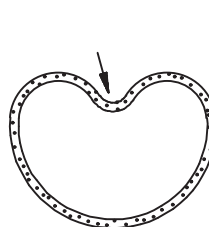

Fig. 1
- (2) Use lithium soap group multipurpose grease.
- (3) For fitting a seal ring, make it heart-shaped as shown in the figures at the right and press one end of it into the groove. Then, fit the whole seal ring while pressing it with your finger (Figs. 1 and 2).